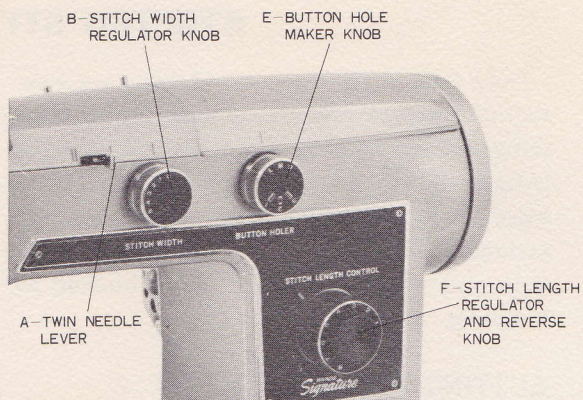

Fig. 17. Zigzag Control Knobs
3. Buttonhole knob (E) Fig. 17 remains at "M" position.
4. Twin needle lever (A) Fig. 17 remains at the right "I" position.
The zigzag stitch width regulator knob (B) Fig. 17, is used for adjusting the zigzag stitch to the desired width. When the knob is set at No. 0 the needle will not move from side to side and the machine will sew the normal straight stitch. When the knob is turned clockwise it widens the zigzag stitch. When the knob is set on No. 5 the machine will sew the widest zigzag stitch.
1. Turn the zigzag stitch width regulator knob, (B) Fig. 17, clockwise as far as it will go—to No. 5.
2. Adjust stitch length regulator (F) for the longest stitch—No. 8.
1. Turn zigzag stitch width regulator knob, (B) Fig. 17, to No. 4.
2. Turn stitch length regulator knob (F) to No. 5.
1. Turn zigzag stitch width regulator knob, (B) Fig. 17, to No. 2.
2. Turn stitch length regulator knob (F) to No. 4.
1. Turn zigzag stitch width regulator knob, (B) Fig. 17, to No. 1.
2. Turn stitch length regulator knob (F) to No. 2.
1. Turn zigzag stitch width regulator knob, (B) Fig. 17, to No. $\frac{1}{2}$.
Before embroidering any of the following stitch patterns, set the stitch width regulator knob (B) Fig. 17, at No. 5.
Still greater variety may be obtained by using the twin needle and 2 colors of thread. To obtain this result, remove the single needle and insert the twin needle. When embroidering with twin needle be sure twin needle lever (A) Fig. 17 is moved to the left to "II".
1. Turn zigzag stitch width regulator knob. (B) Fig. 17, to produce the width of zigzag stitch desired.
2. Set the machine for zigzag sewing. See Page 13. Turn zigzag stitch width regulator knob, (B) Fig. 17, to No. 1 or No. 1½ to produce a narrow zigzag stitch.
3. Set stitch length regulator (F) at No. 4 or No. 5. Stitches should not be too close.
2. Move zigzag stitch width regulator knob (B) Fig. 17, to No. 0.
3. Set stitch length regulator (F) Fig. 17, at No. 2½.
Proceed as outlined above, except that in step 2 above, move zigzag stitch width regulator, (B) Fig. 17, to No. 2.
2. Move zigzag stitch width regulator. (B) Fig. 17, to No. 0.
3. Set stitch length regulator (F) at No. 2½.